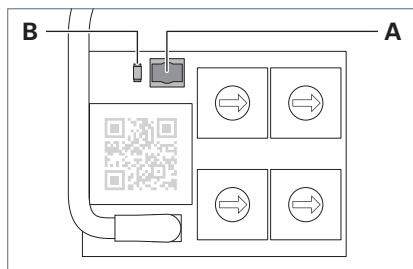

Fig. 9: Key and LED.
- Briefly press the key **A** on the TALK module (for less than three seconds), see Fig. 9.